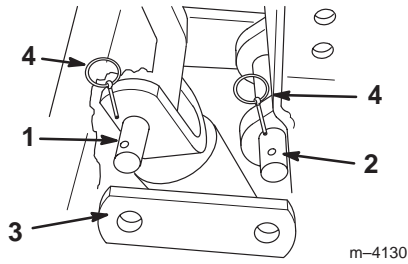
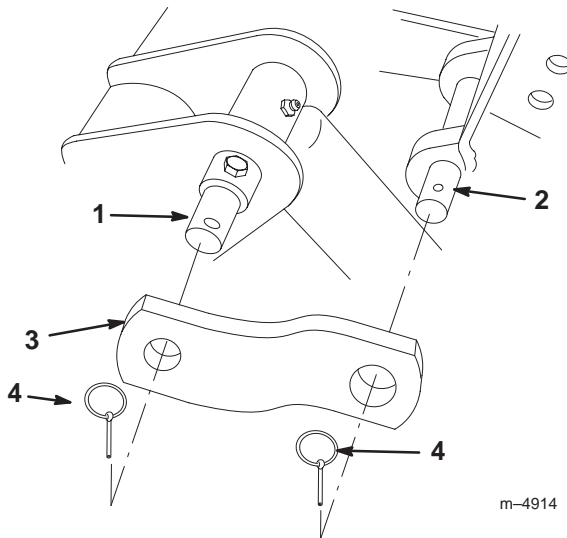

Figure 11
Figure 12
8. Slide the two links on each end of the tilt cylinder pin and the backhoe link pin and secure them with two lynch pins (Fig. 11 for Dingo 200/300 Series traction unit or Fig. 12 for Dingo TX traction unit).